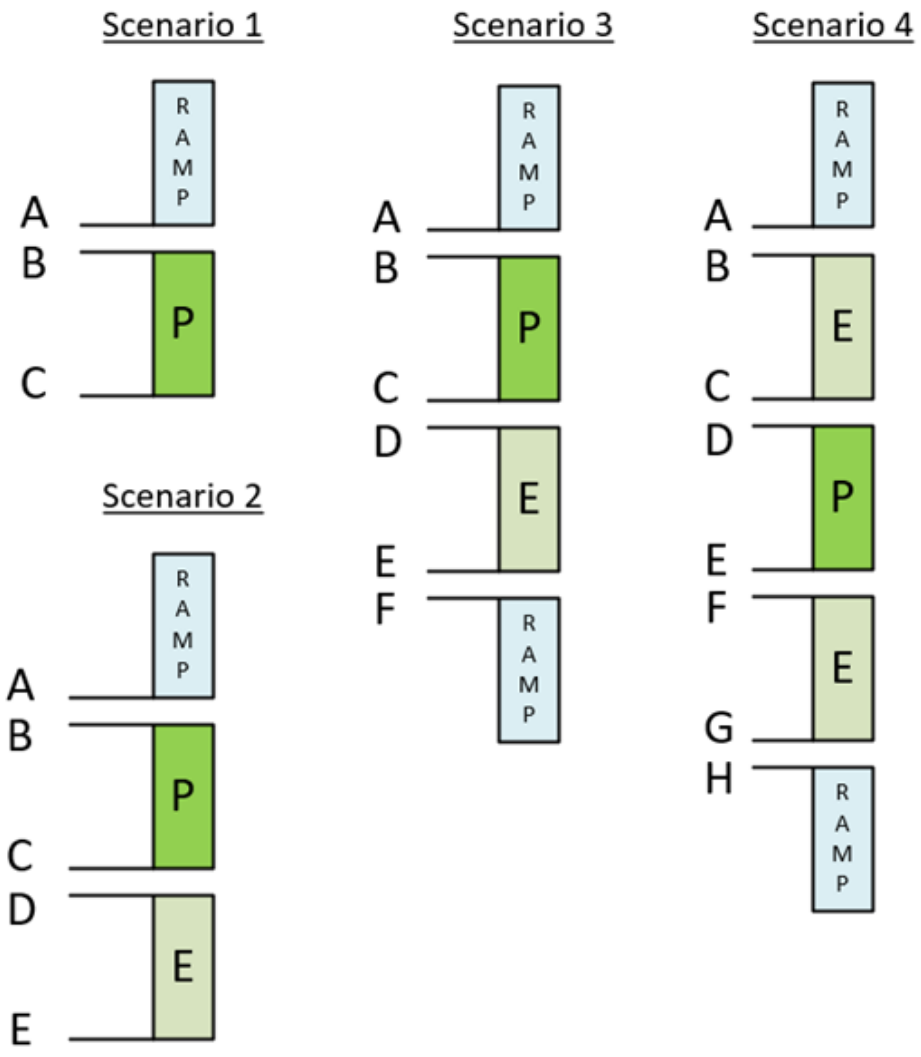

Figure 1 – AWS Configuration Scenarios
- N.4 Check and record the position of the magnet(s) and associated ramps according to the relevant configuration detailed in Figure 1.